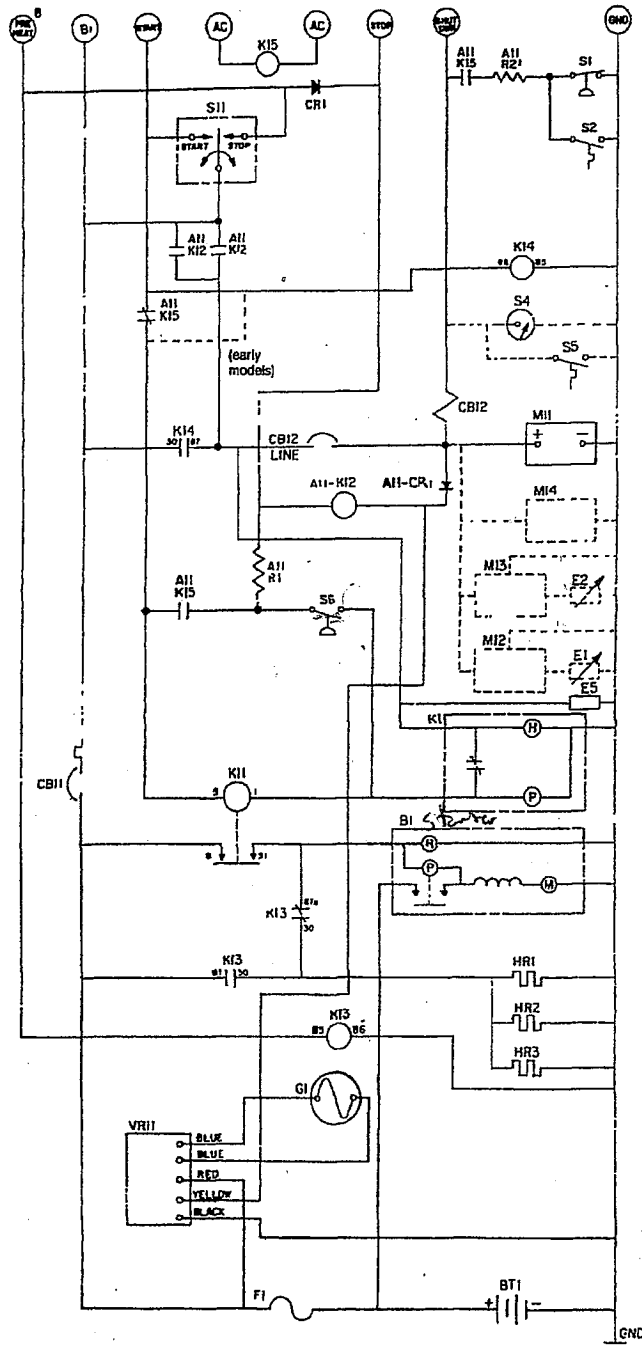

FIGURE 2-4. MDKC/MDKD CONTROL SCHEMATIC
Figure 2-4 shows a typical schematic for the circuits described in the following Starting, Start-Disconnect, and Stopping sequences. Relay contact references normally open (NO) and normally closed (NC) refer to position of contacts with the unit at rest (not energized).
Emergency Shutdown: Fault breaker CB12 opens to stop the engine any time a fault sensor closes the circuit to ground. The fault sensors, shown in Figure 2-4, are: